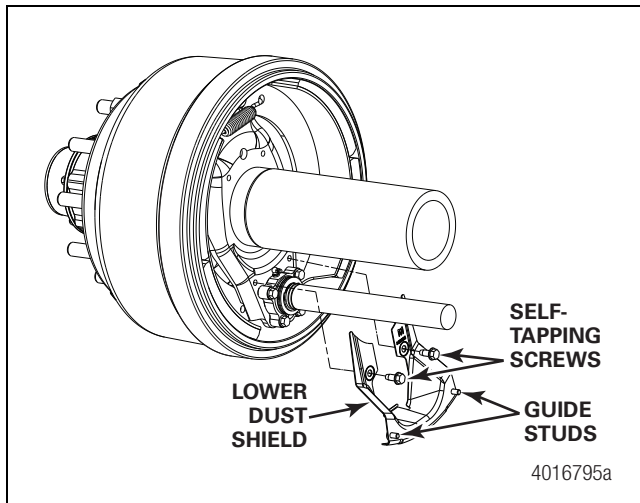

Figure 2
3. Install lower dust shield or filler plate over the camshaft on inboard side of the spider as shown in Figure 2. Align the spider holes and dust shield holes and make sure that dust shield's guide studs will be pointing toward the inboard side of the axle.